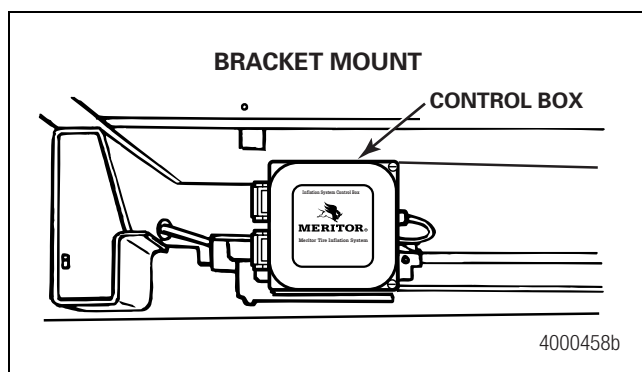
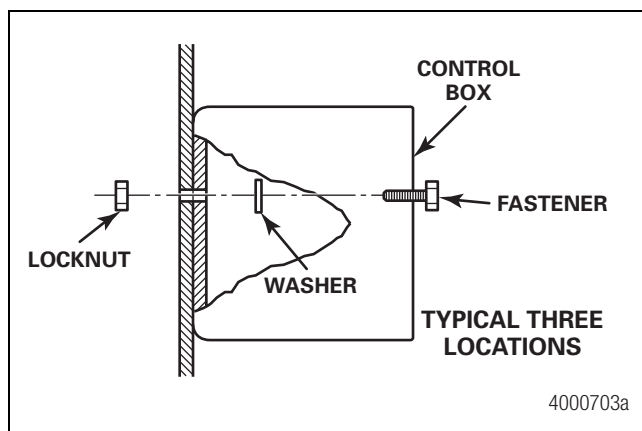
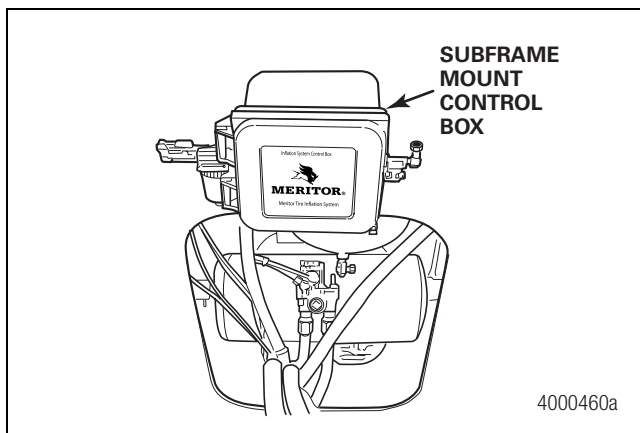

Figure 2.52
Figure 2.53
Figure 2.55
4. Install the control box to the mounting bracket using the supplied 1/4-inch (6.36 mm) fasteners, washers and locknuts. Figure 2.52 and Figure 2.53.
2. Discard the supplied mounting bracket. Use the supplied 1/4-inch (6.36 mm) fasteners, washers and locknuts to install the control box directly to the subframe. Figure 2.53 and Figure 2.55.